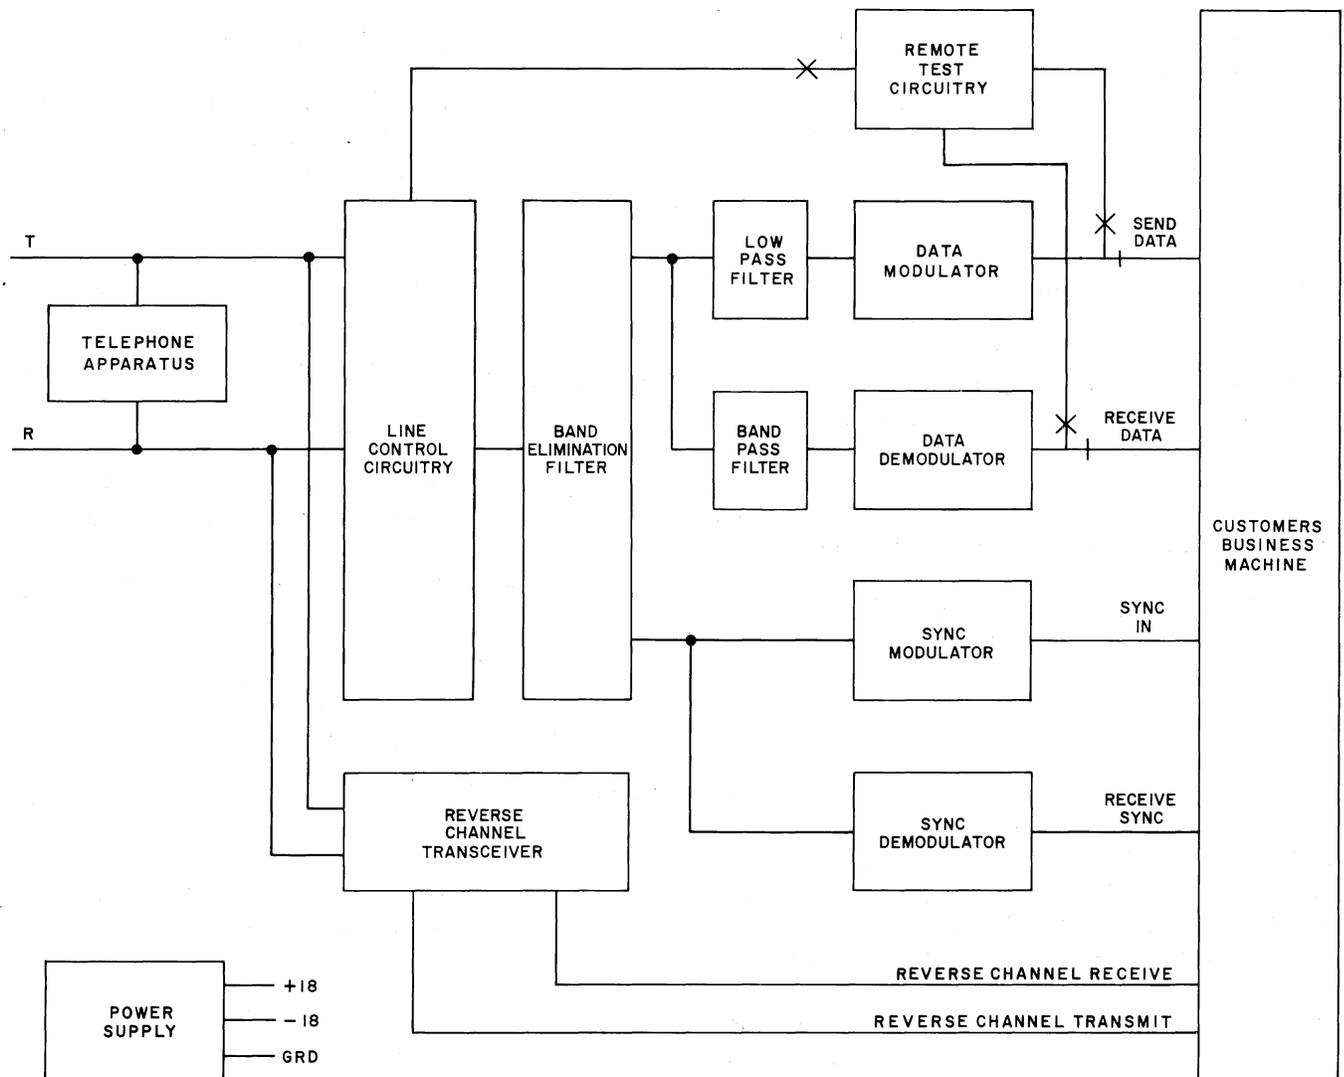

Fig. 3—Data Set 602C-Type, Simplified Block Diagram
2.08 Data set 602C-type consists of a transmitter, receiver, line control unit, telephone set, power supply, and reverse-channel unit (optional). The transmitter contains data and sync modulators; the receiver contains data and sync demodulators. The control circuitry and power supply are common to both. The functions of the major components (Fig. 3) are described in the following paragraphs.